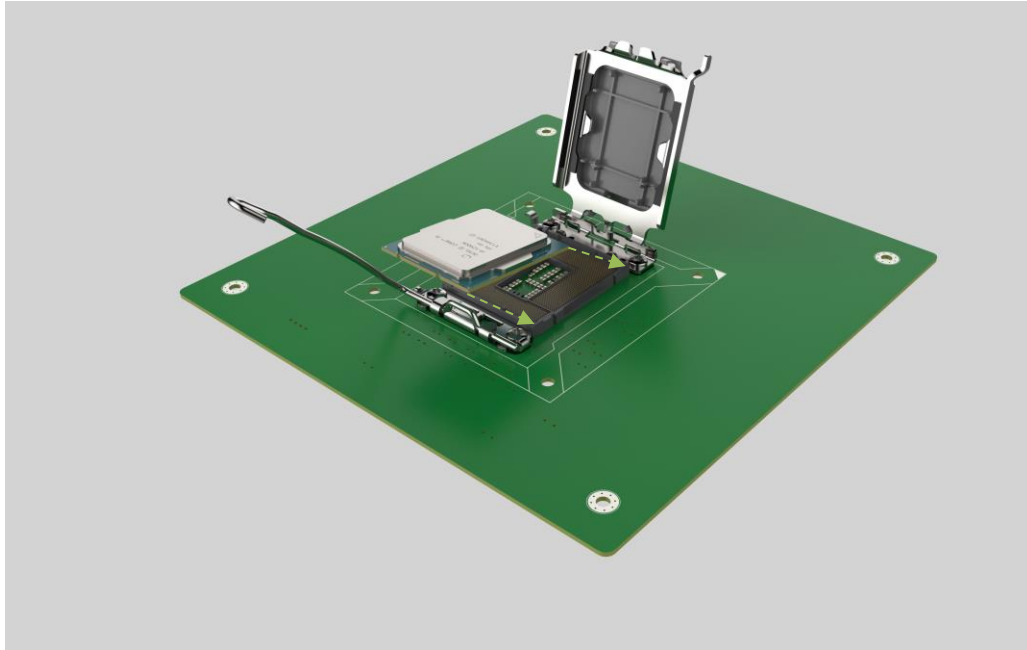

Figure 3-5: Insert the Socket AM5 CPU
Step 7: Insert the CPU. Gently insert the CPU into the socket. If the CPU pins are properly aligned, the CPU should slide into the CPU socket smoothly. See **Figure 3-5**.